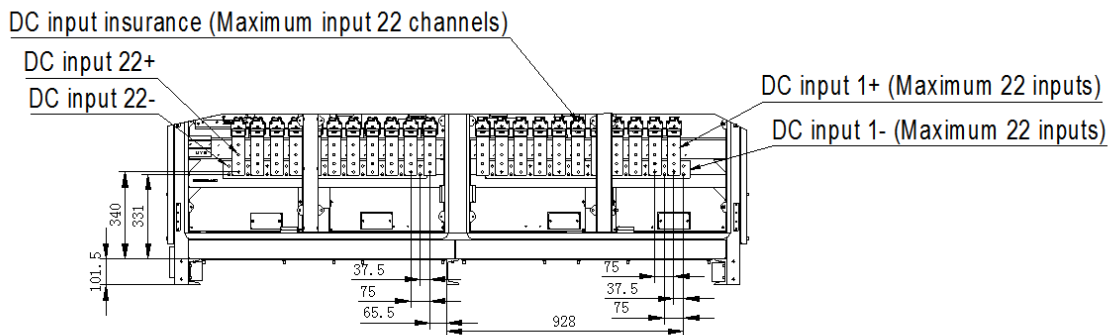

Figure 3-2 Wiring terminal on the DC input side
Step 2: The bottom on the DC side of the inverter is a solid aluminum plate. You need to open a hole on the aluminum plate. The hole position needs to be perpendicular to the terminal, the hole size needs to match the cable diameter, and the cable cannot be cut. The number of holes is related to the number of configured paths on the DC side, with a maximum support of 22 paths. The input cables on the DC side shall be evenly arranged on the left and right sides. Figure 3-2 shows the wiring terminal on the DC input side, where the front row is the positive pole, the back row is the negative pole, and DC input tributaries 1-22 are distributed from right to left in sequence.